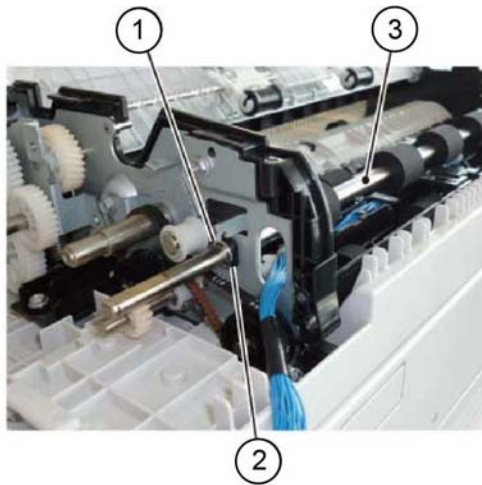

Figure 9 Takeaway roll removal
15. Remove the rear bearing, then the DADF takeaway roll, Figure 9:
- a. Remove the E-clip (1).
- b. Remove the bearing (2).
- c. Remove the DADF takeaway roll (3).